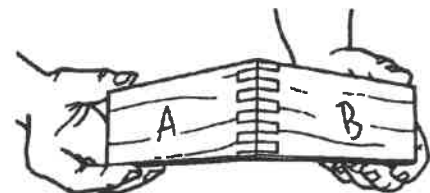

Fig. C-6
13. When you have reached the top of the last workpiece and the final cut is complete, assemble the two workpieces. See Fig. C-6.